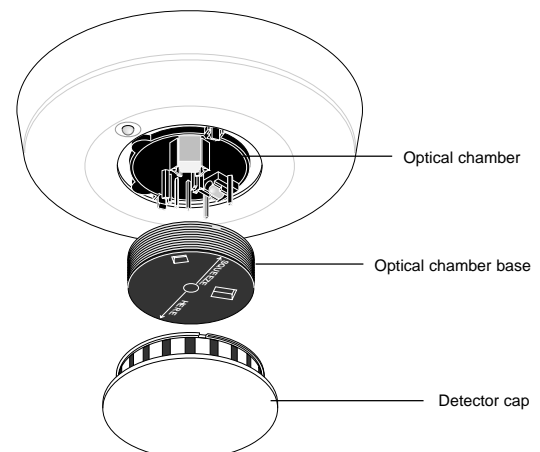

Figure 10. Removing the optical chamber
3. Press in on the sides of the optical chamber and pull it up and away from the detector and discard. See Figure 10.